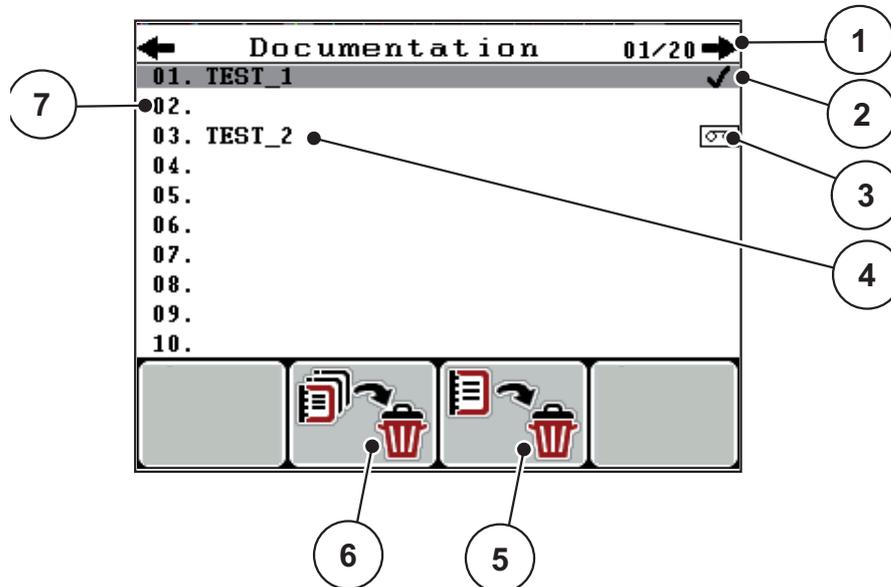

Figure 4.19: Documentation menu
3. Press the **F3** function key under the **Delete** icon (see Figure 4.19).
2. Press the **F2** function key under the **Delete** all icon (see Figure 4.19).